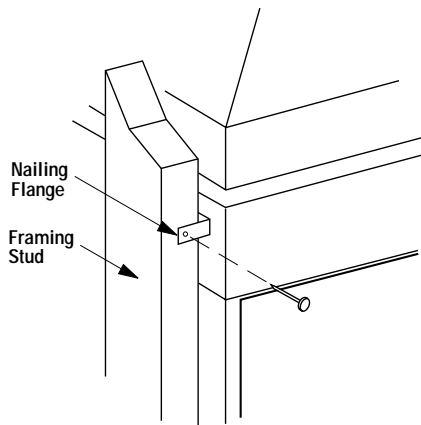

Figure 26
Step 4. The fireplace should be secured to side framing members using nailing tabs. Use 8d nails or equivalent (Figure 26).